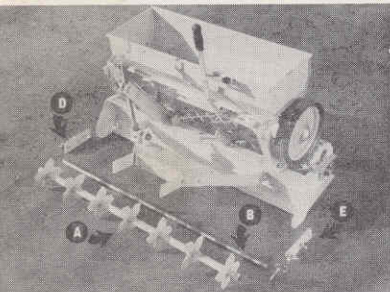
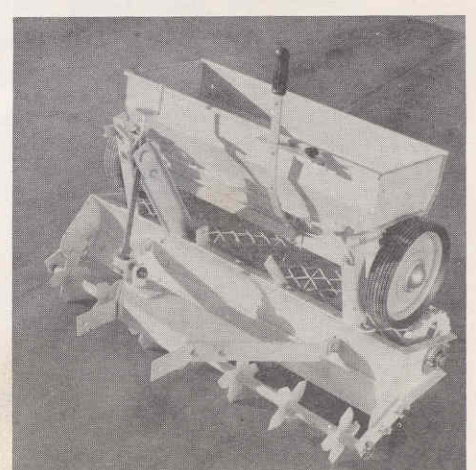

Figure 5
Figure 5A
To attach slicing attachment (A) Figure 5 insert shaft (B) Figure 5 through pipe of slicing attachment (A) Figure 5. Bolt brackets (D) Figure 5 and (E) Figure 5 to outside of wings of blade using four $\frac{3}{8}$ " x $1\frac{1}{4}$ " bolts, washers and wing nuts. Large holes in brackets should be nearest to ground. Shaft (B) Figure 5 should be inserted into large hole of bracket so that klik pin hole in shaft is on same side as bracket with klik pin hole. Klik pin is then inserted through pin hole in bracket and pin hole in shaft as shown at (A) in Figure 5A.